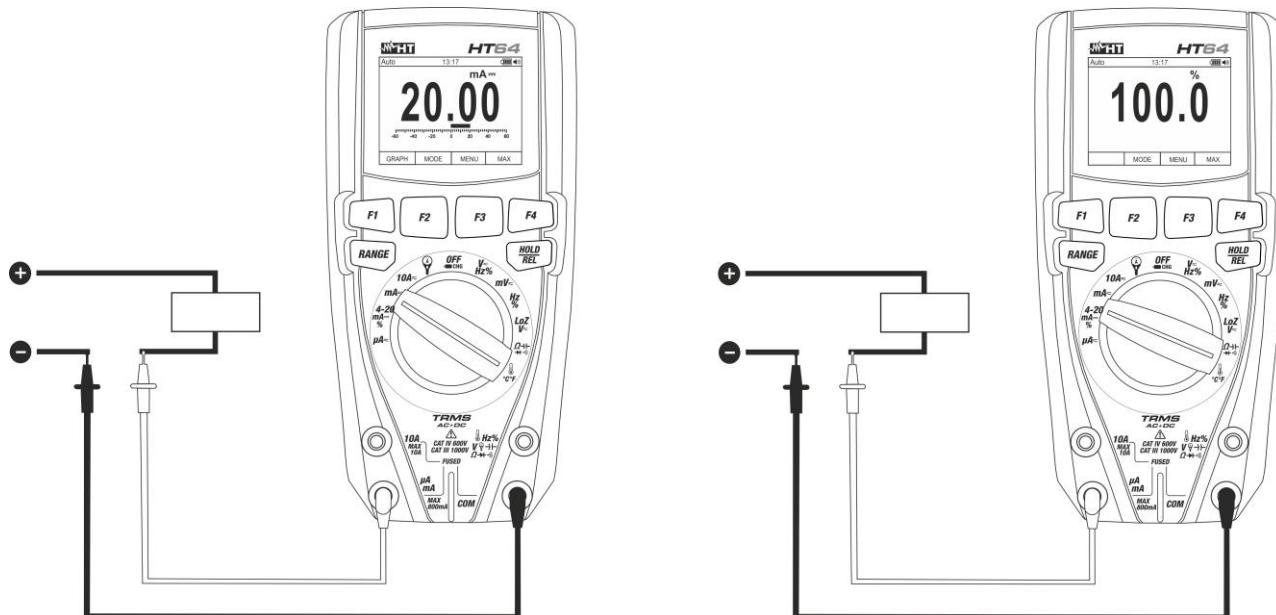

Fig. 30: Use of the instrument for DC current measurement and 4-20mA% reading.
4. Connect the red lead and the black lead in series to the circuit whose current you want to measure, respecting polarity and current direction (see Fig. 30).
6. The value of DC current (see Fig. 30 – left side) appears on the display.
7. The value of reading 4-20mA% (0mA = -25%, 4mA = 0%, 20mA = 100% and 24mA = 125%) (see Fig. 30 – right side) appears on the display. The bargraph is not active in this function.
9. When symbol "-" appears on the instrument's display, it means that current has the opposite direction with respect to the connection in Fig. 30.